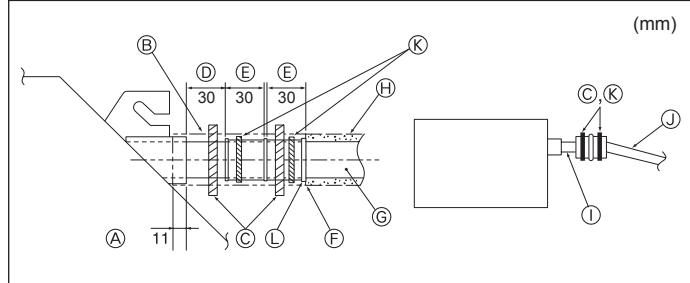

Fig. 3-5
- ⑧ Odor trap
- ⑨ O.D. Ø32 PVC TUBE
- ⑩ Make it as large as possible
- ⑪ Indoor unit
- ⑫ Make the piping size large for grouped piping.
- ⑬ Downward slope (1/100 or more)
- ⑭ O.D. Ø38 PVC TUBE for grouped piping.
- ⑮ Up to 500 mm
1. Connect the drain socket (supplied with the unit) to the drain port. (Fig. 3-5) (Affix the tube using PVC adhesive then secure it with a band.)